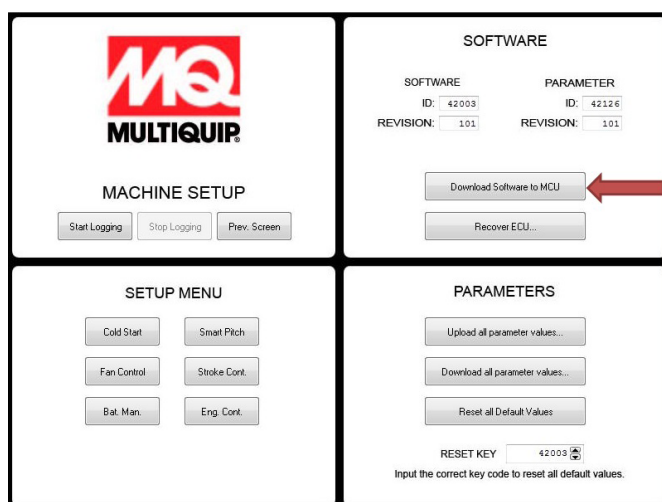

Figure 23. Download Software to MCU Screen
5. Click "Download Software to MCU" button (Figure 23).